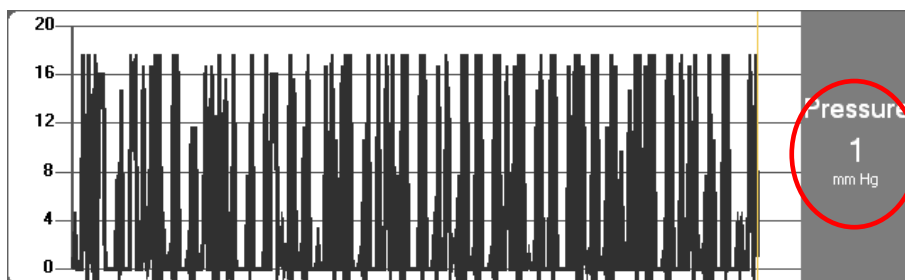

Fig 25
- The infusion circuit pressure (Fig 25).